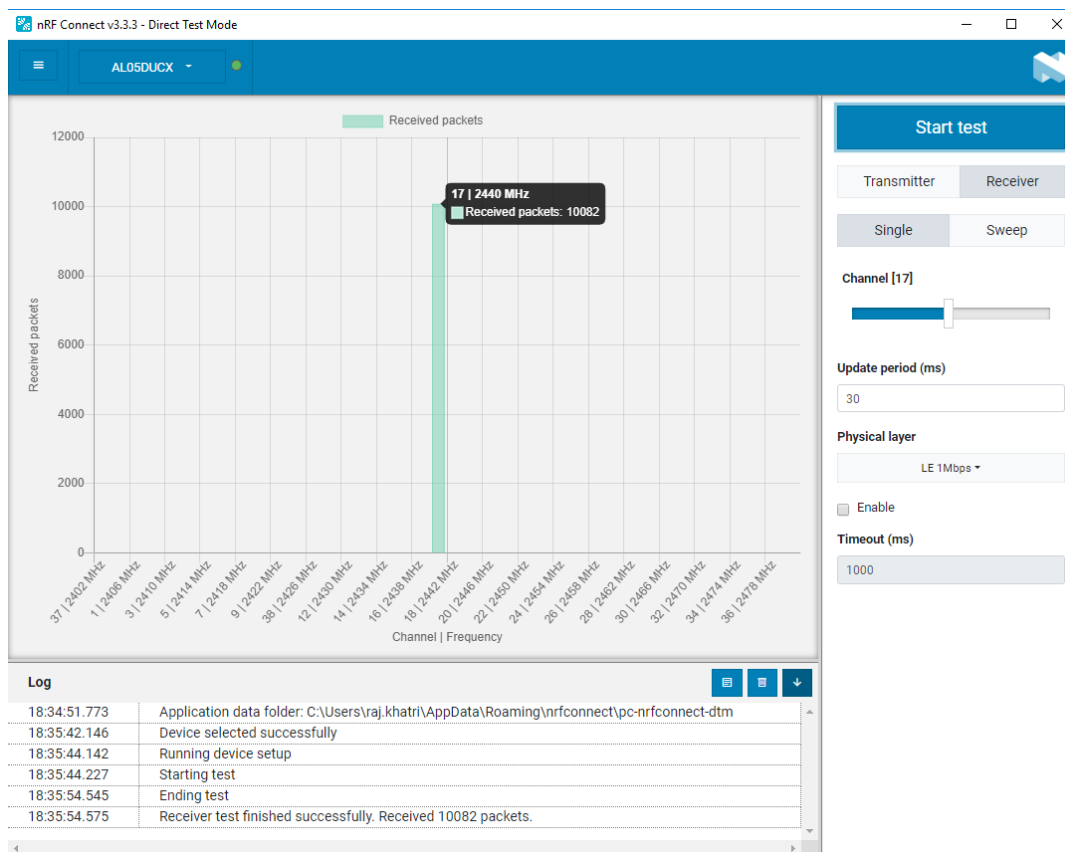

Figure 10: Successful initiation of BLE receiver test (received packets)
- Once configured, to start Receiver test, click **Start test**. Figure 10 shows a BLE receiver test running.